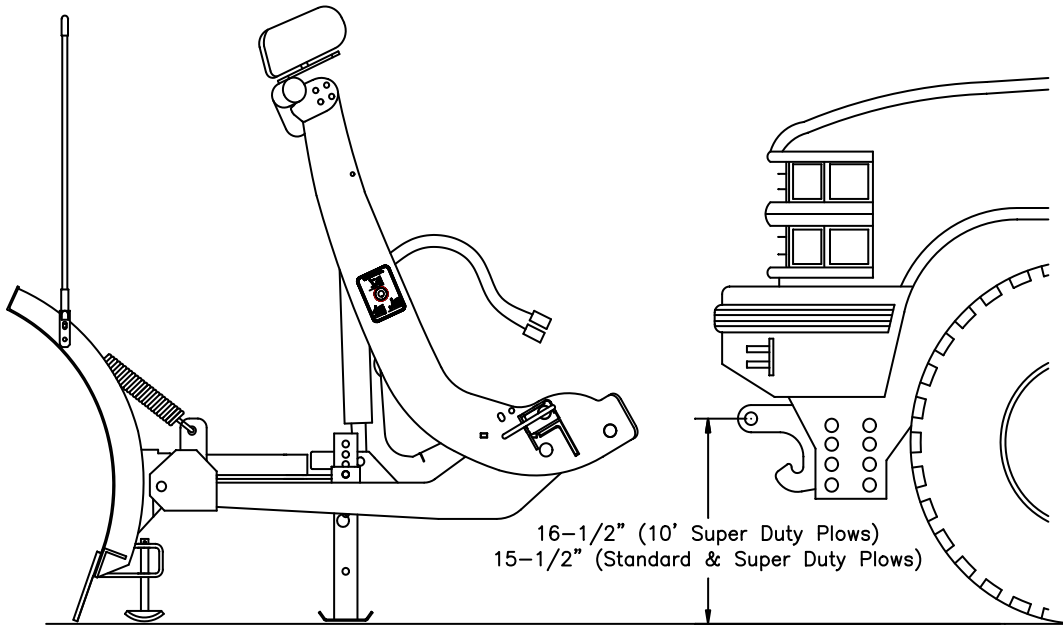

Figure 4
2. Position PUSH BEAM SUPPORT PLATES (62A & 62B) to the front frame rails directly behind the bumper mounting brackets. Using $\frac{1}{2}$ " – 13 x 1-1/4" Carriage Bolts (D) and $\frac{1}{2}$ " – 13 Self-Locking Nuts (B) bolt PUSH BEAM SUPPORT PLATES (62A & 62B) in place.
3. Bolt UPPER SUPPORT BRACKETS (62C & 62D) to the top two holes of PUSH BEAM SUPPORT PLATES (62A & 62B) using $\frac{1}{2}$ " - 13 x 1 1/2" Hex Head Bolts (A) and $\frac{1}{2}$ " – 13 Self-Locking Nuts (B). Transfer punch the two lower holes on PUSH BEAM SUPPORT PLATES (62A & 62B) and UPPER SUPPORT BRACKETS (62C & 62D) and drill 9/16" diameter holes into the frame rail. Secure with $\frac{1}{2}$ " - 13 x 1 1/2" Hex Head Bolts (A) and $\frac{1}{2}$ " – 13 Self-Locking Nuts (B).
4. Bolt PUSH BEAM (62) in place using $\frac{1}{2}$ " - 13 x 1 1/2" Hex Head Bolts (A), $\frac{1}{2}$ " - 13 x 2" Hex Head Bolts (C) and $\frac{1}{2}$ " – 13 Self-Locking Nuts (B) provided (a total of 4 nuts and bolts per end). The 2" bolts are for the back of PUSH BEAM (62) where the bolt must also pass through ANGLE BRACKETS (75A & 75B). NOTE: the proper height adjustment for PUSH BEAM (62) is approximately 15-1/2" from the ground to
the center of the PUSH BEAM (62) pin-receiving hole (see Fig. 4).